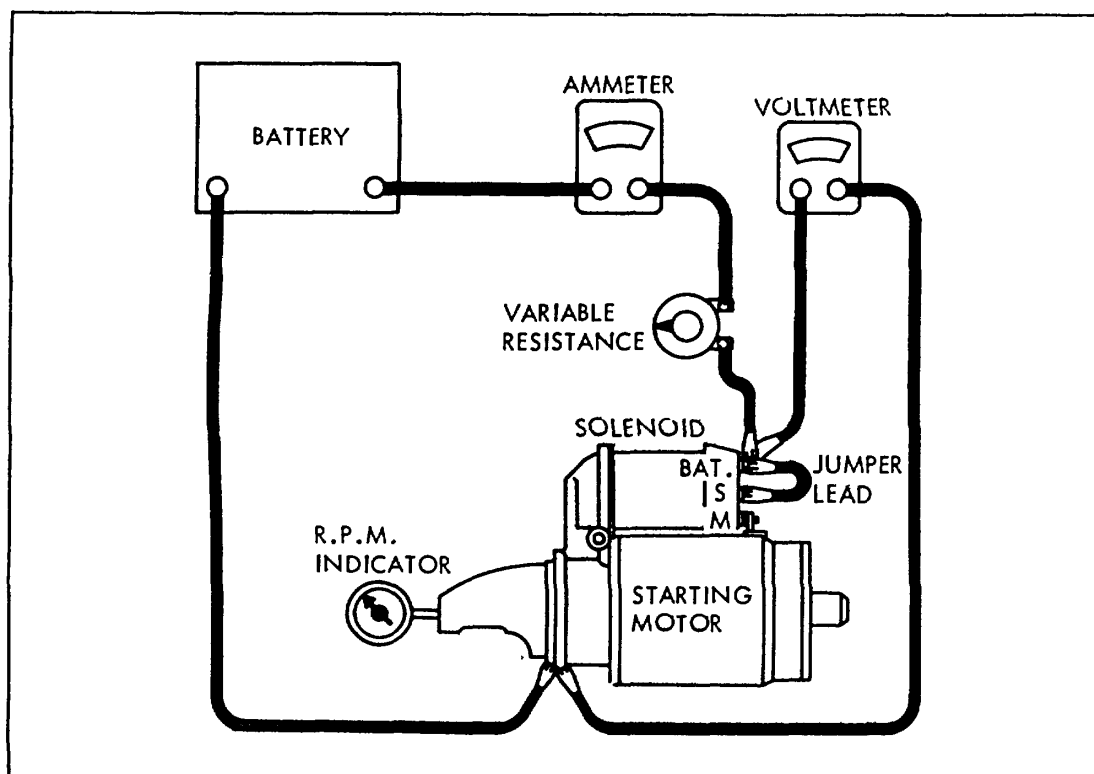

Figure 7-5. Starter No-Load Current and Speed Test Setup
1. Connect starting motor assembly to test circuits (figure 7-5). Be sure equipment used has sufficient capacity to handle test, anticipating possible electrical overloads if the starting motor is defective.